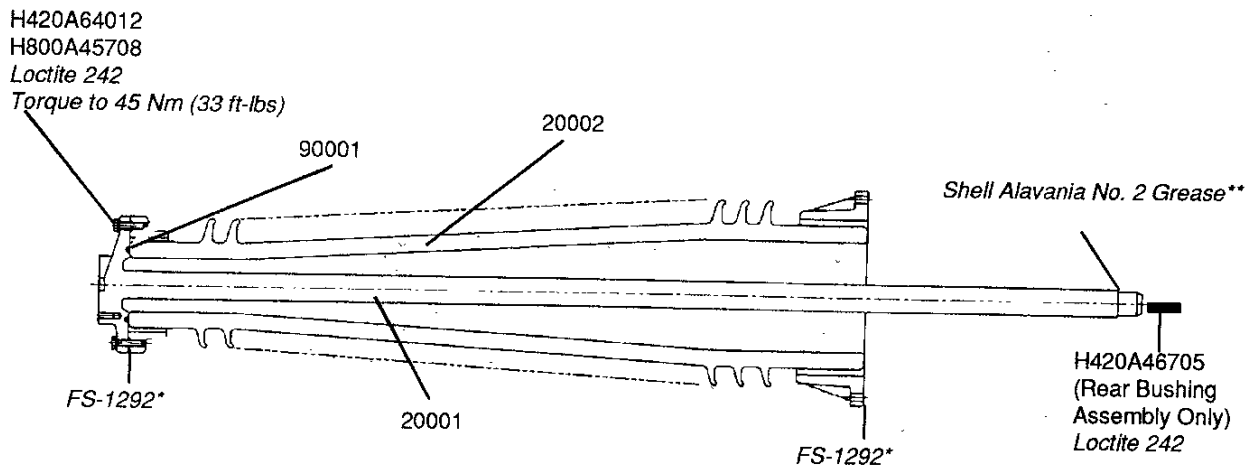

Figure 2
**Take precautions not to bump the porcelain insulator 20002 (Fig. 2) while lifting the bushing.**